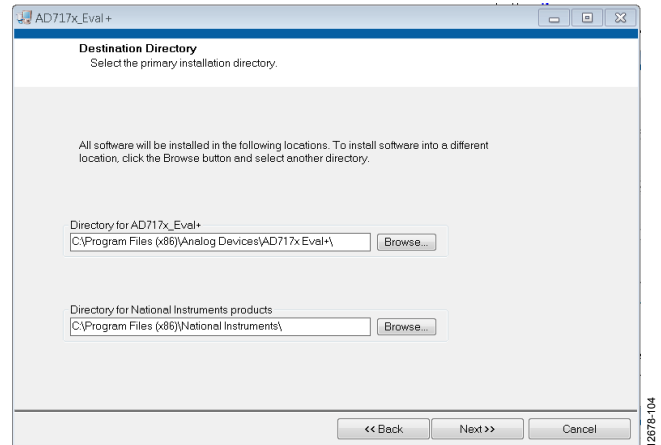

Figure 4. **AD717x Eval+ Installation** Selecting the Location for Software Installation
4. Select a location to install the software and click **Next**. Figure 4 shows the default locations displayed when the dialogue box opens. To select another location click **Browse**.